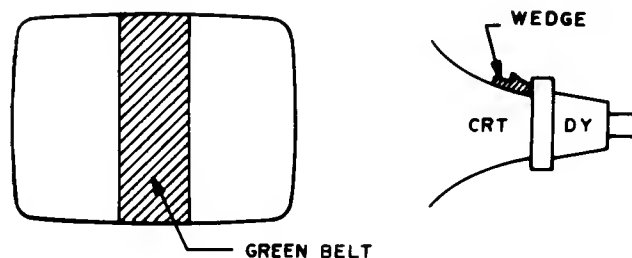

Figure 4
- 2.8 Pull the deflection yoke backward so that a green belt appears on the screen (see Figure 4).
- 2.17 Insert a wedge temporarily as shown in Figure 4; adjust the angle of the deflection yoke.